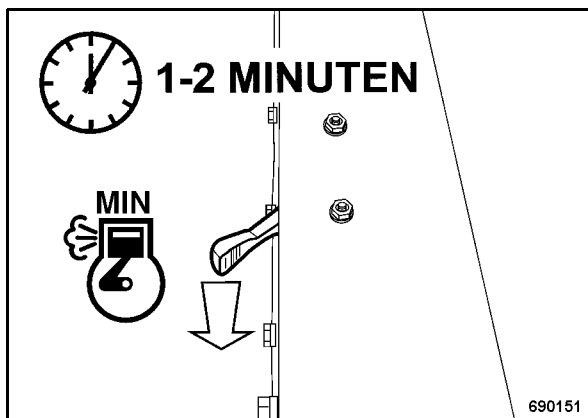

Fig. 29
- Shift the throttle lever (Fig. 29) to position "MIN" and let the engine run with idle speed for a short while.